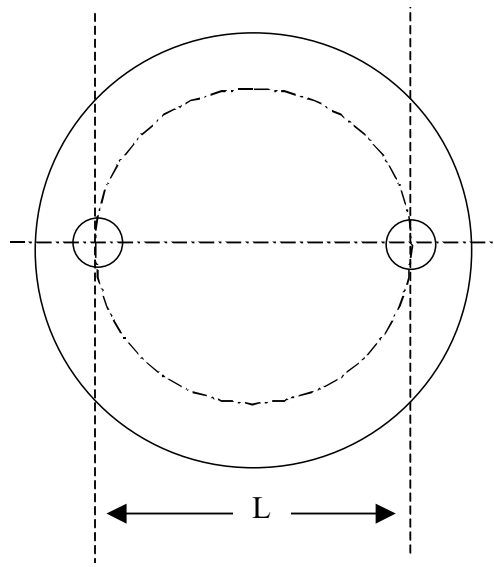

Figure 1
5.2.1 The ports will be located with the dip tube at the 3 o'clock position and the gas inlet at the 9 o'clock position, as illustrated in Figure 1.